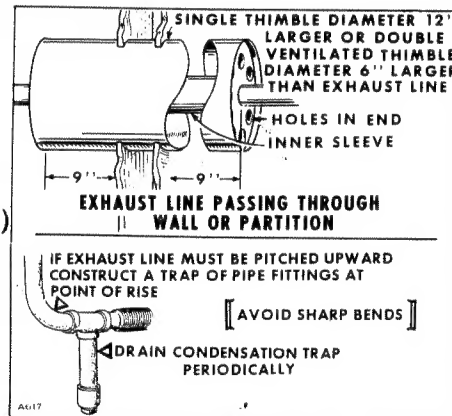

Fig. 3 Exhaust
**EXHAUST.** - Pipe POISONOUS exhaust gases outside any enclosure. Locate exhaust outlet far from air inlet to avoid gases re-entering enclosure. The engine exhaust on DJA and DJB models is tapped for 1-1/4" pipe and on DJC for 1-1/2" pipe. Use flexible tubing to connect between engine exhaust and any rigid pipe extension or the muffler. Shield the line if it passes through a combustible wall (fig. 3). If turns are necessary, use sweeping (long radius) type elbows. If pitched upward, install a condensation trap at point of rise. Increase one pipe size for each additional 10 feet in length. On DJC models, the exhaust manifold can be reversed for rear down exhaust instead of front up.